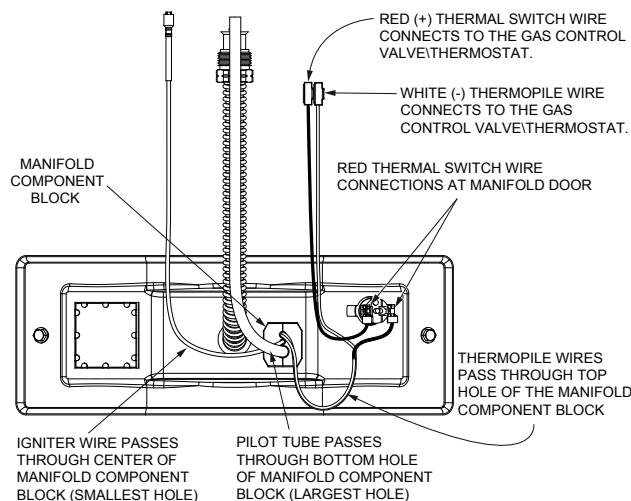

FIGURE 37.
7. Route the new pilot tube, new igniter wire and new thermopile wire through the opening in the manifold door (Figure 37).
9. Reinstall the manifold component block in the manifold door (Figure 37).
7. Connect the white (-) thermopile wire to the gas control valve/thermostat. Then connect the red thermal switch wires to the thermal switch on the on the manifold door. (Figure 37).